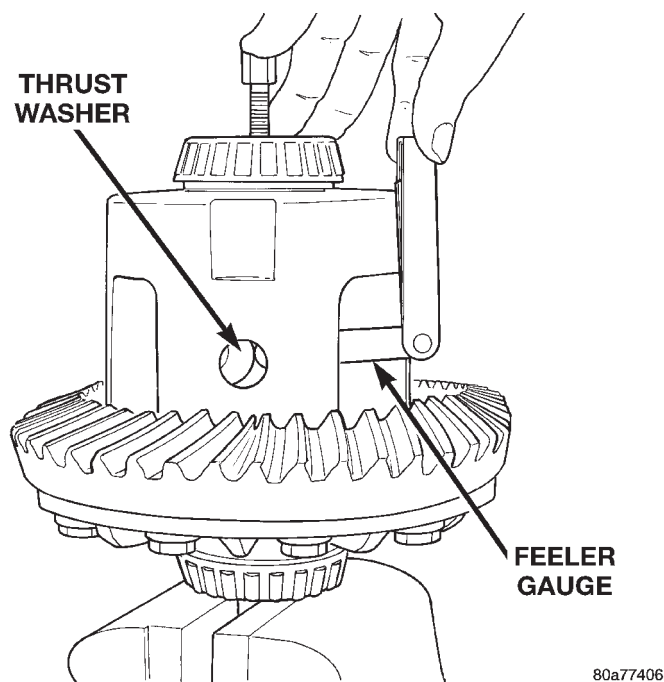

Fig. 58 Remove Pinion Gear Thrust Washer
(10) Using an appropriate size feeler gauge, remove thrust washers from behind the pinion gears (Fig. 58).